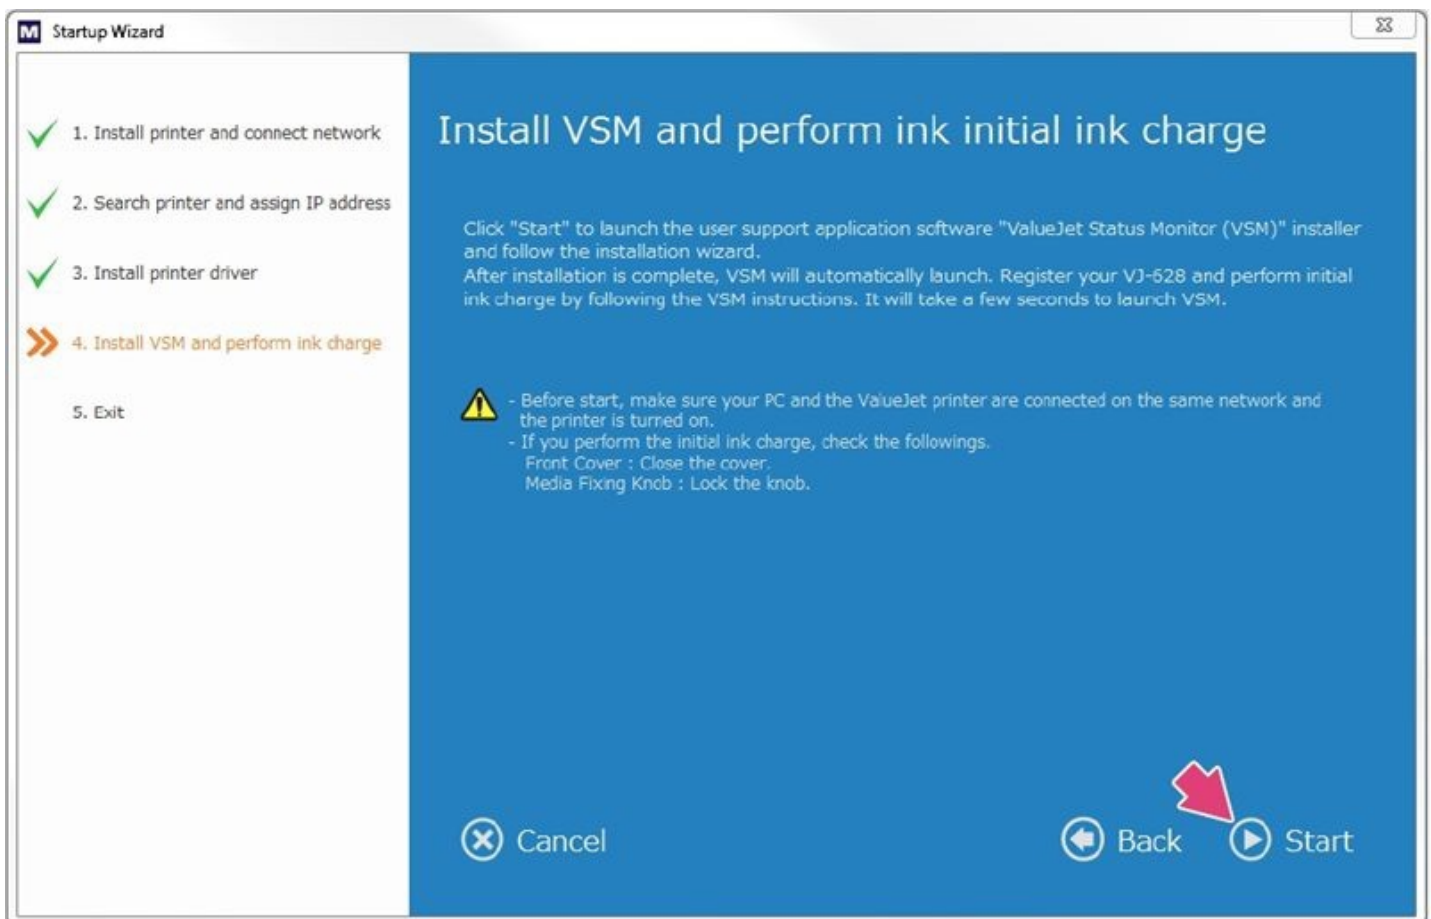

Figure 36
23. Select **Start** to install the ValueJet Status Monitor (VSM) and perform the initial ink charge. See Figure 36.